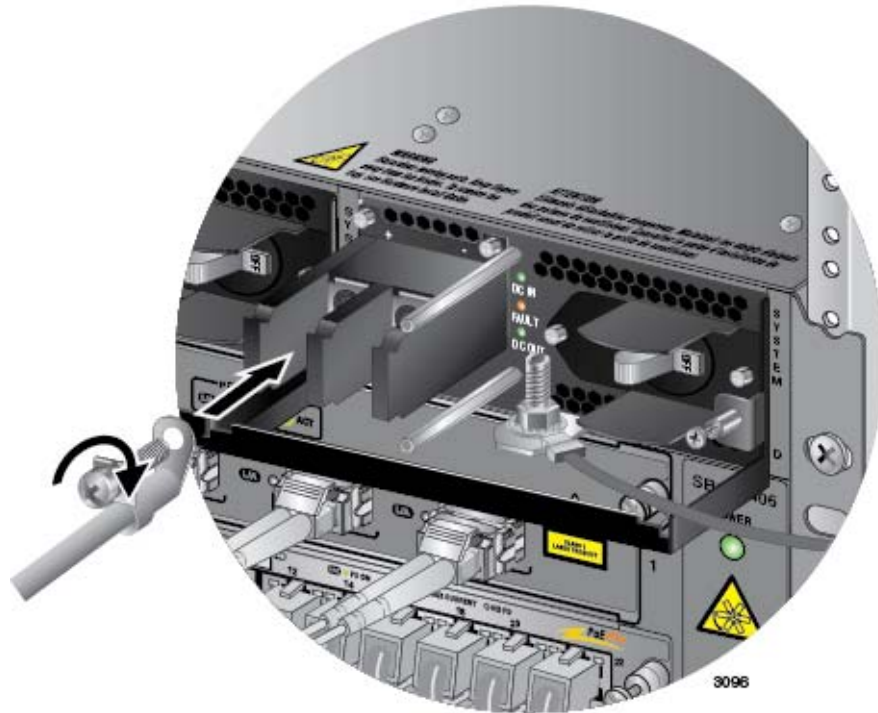

Figure 148. Connecting the Positive (+) Power Wire with a Right Angle Terminal
6. With a #3 Phillips-head screwdriver, connect the positive (+) power lead wire to the positive terminal on the power supply, with one of the terminal screws removed in the previous step. The positive terminal is on the left. Refer to Figure 148 on page 206.